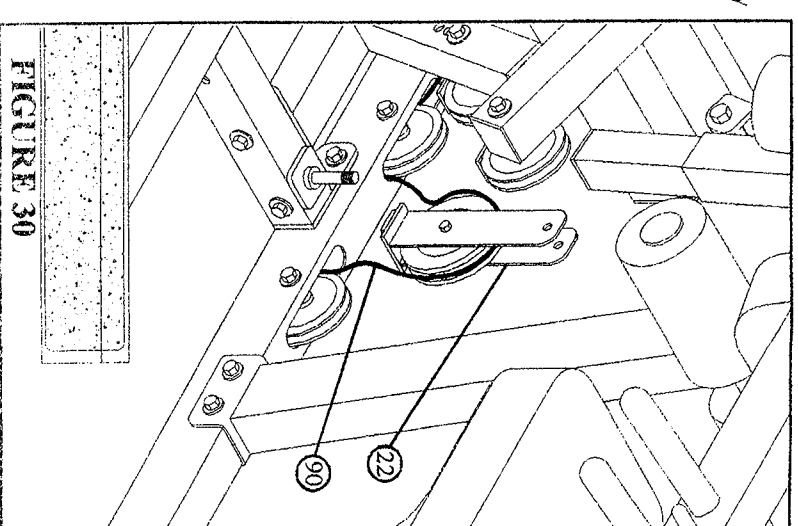

FIGURE 30
- Loop LEG EXT. CABLE (90), previously installed in BASE (10), around pulley in lower FLOATING PULLEY BRACKET (22) as shown in FIGURE 30.